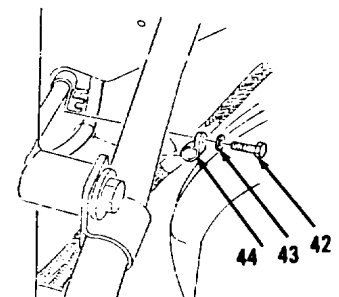

Figure 10-172.
19. Remove bolt (42), washer (43) and clip (44, Figure 10-172) from right side frame rail.